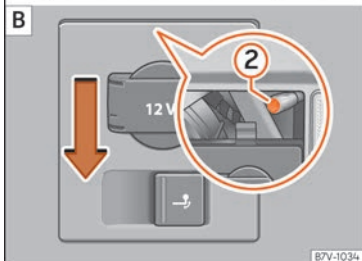

Fig. 115 On the side of the boot: removing the left and right hand side rear lights. ① remove the cap; ② attachment screw
4.	Unscrew the attachment screw »» Fig. 115 ② using the screwdriver from the vehicle tool kit »» page 85. The bolt is secured in its position.